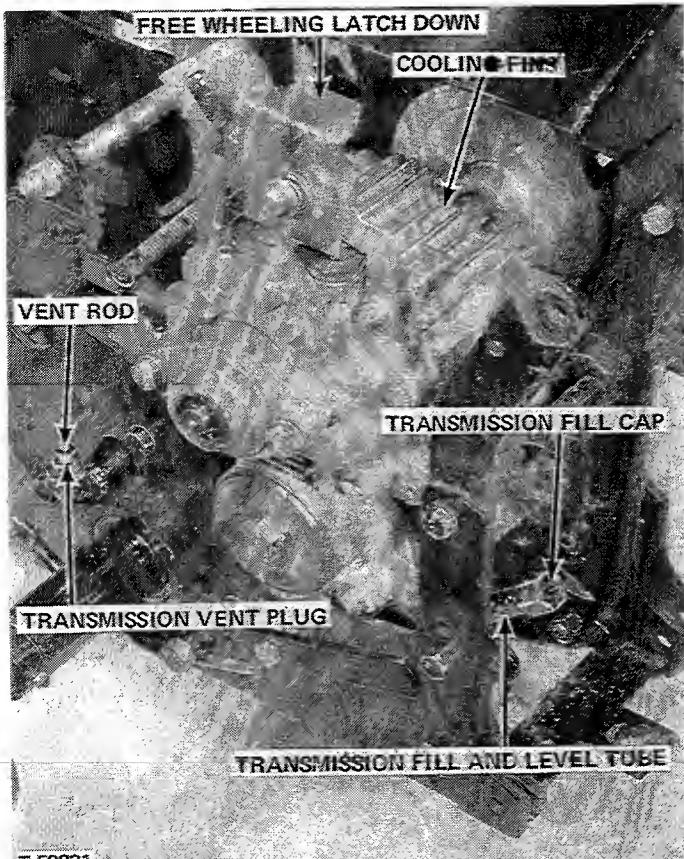
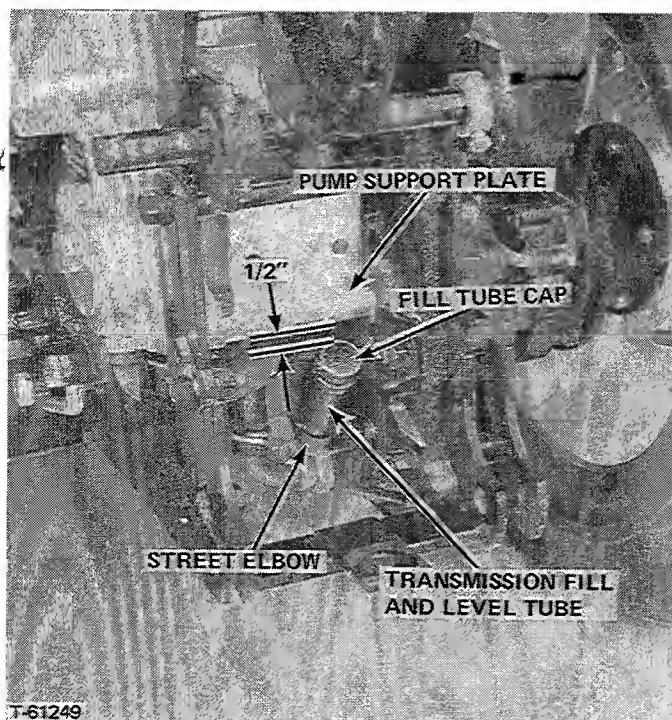

FIGURE 20 - Hydrostatic Transmission (Seat and Deck Removed)
FIGURE 20B - Transmission Fill and Level Tube Position correct
The hydrostatic transmission oil level must be checked and maintained at proper level every 25 hours of operating time. To check and maintain the proper oil level by the following system, it is necessary that the transmission level and fill tube be set at the angular location shown in Figure 20B.
tube cap as shown in Figure 20A. This dimension should be $1/2''$. If it is greater than this, as it is in Figure 20-A, the street elbow into which the fill and level tube is threaded must be rotated counterclockwise about the end threaded into the transmission housing until the fill tube cap moves to the $1/2''$ dimension shown in Figure 20B.
- B. Make sure that the hydrostatic control lever is in the neutral position, that any P.T.O. clutch levers are in the disengaged position, that the parking brake is set, and that the free wheeling latch (See Figure 20.) is pushed completely down, disengaging the hydrostatic drive pump.
- C. Carefully clean all dirt away from the vent rod and plug (Figures 20 and 22) and from the transmission fill and level tube and fill tube cap.
- A. With hydrostatic transmission oil hot, park tractor on level ground, place hydrostatic control lever in neutral, place any P.T.O. clutch levers in the disengaged position, engage parking brake, and stop engine. Press free wheeling latch (Figures 20 and 21) down firmly to disconnect the hydrostatic pump.
- B. Remove hydrostatic transmission drain plug from lower R.H. side of transmission (Figure 21). Remove dirt from around transmission fill cap (Figure 20), and loosen cap to permit air to enter transmission.
- E. Remove the transmission fill tube cap and clean dirt away from vent rod and transmission vent plug. Before filling be sure fill tube is located as outlined in Item 1 "Hydrostatic Transmission Oil Level Check." Using a clean funnel, pour new, clean, Allis-Chalmers Power Fluid 401 or Dexron automatic transmission fluid into the fill tube while holding the vent rod up (Figures 20 and 22), until fill tube is full and will no longer accept more fluid. Then replace the fill tube cap hand tight only.
Every four hours of operation, lift the seat deck and examine the hydrostatic transmission cooling fins (Figure 20) and the cooling fan and fan screen for dust and dirt. Keep area clean for cool and efficient hydrostatic operation.